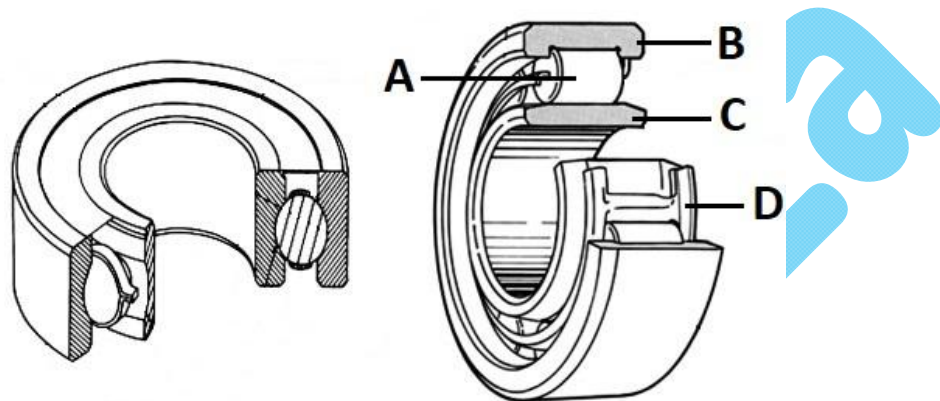

FIGURE 2 (4)
- 3.1 FIGURE 2 below shows two anti-friction bearings. Name the TWO anti-friction bearings shown. (2)
- 3.2 Name the parts indicated in FIGURE 2 by writing only the answer next to the letter (A–D) in the ANSWER BOOK. ★